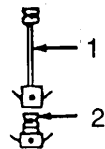

Figure 4-14. Adapter Assembly, Removal/Installation.
- a. **Removal.** (Refer to Figure 4-14.)
- (1) Pull upon suction hose (1) camlock levers.
- (2) Remove adapter assembly (2) and install dust plug and dust cap.
- (1) Refer to Figure 4-14 and position adapter assembly (2) on fuel source and secure by pushing down on camlock levers.
- (2) Install suction hose assembly (1) and secure by pushing down on camlock levers.